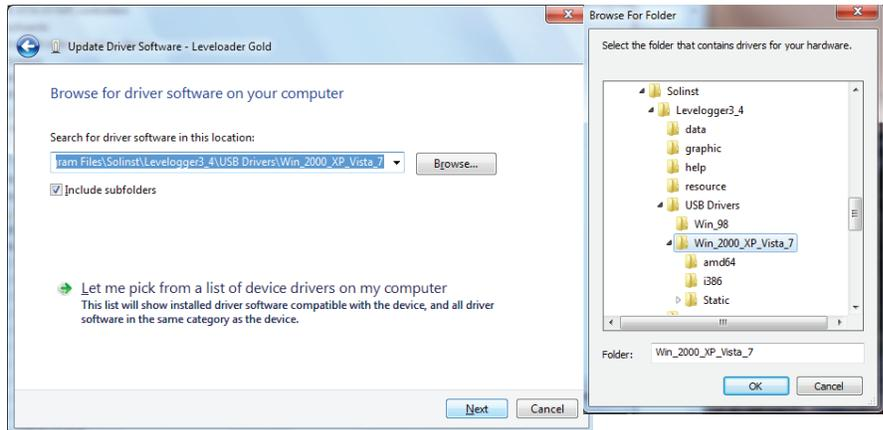

Figure 4-15 Browse for Driver Software
- 5) Click the Browse button and point the navigation window to the provided USB drivers located within the Leveloader 3_4 folder (See Figure 4-15). Default destination is: